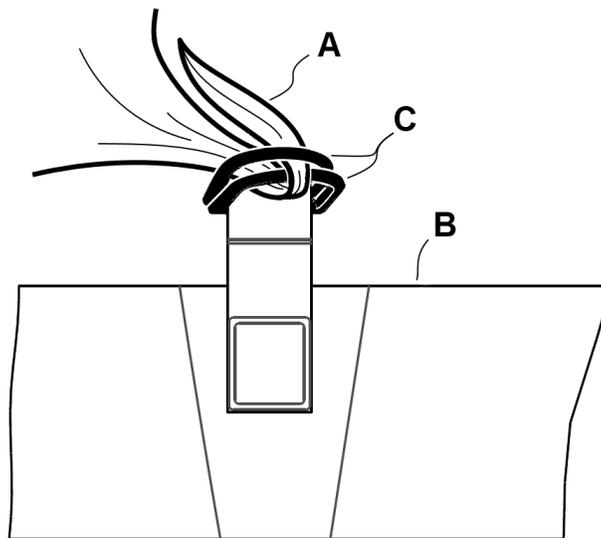

Figure 20 – Apply linens
1. Part the D-rings (C) (Figure 20).
2. Thread the four linen corners through the D-rings (C) attached to the bottom cover to secure the linens (A) to the support surface (B).